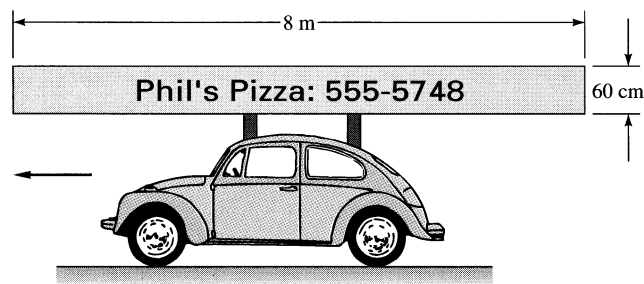

Fig. P7.56
**7.56** A delivery vehicle carries a long sign on top, as in Fig. P7.56. If the sign is very thin and the vehicle moves at  $65 \text{ mi/h}$ , (a) estimate the force on the sign with no crosswind. (b) Discuss the effect of a crosswind.